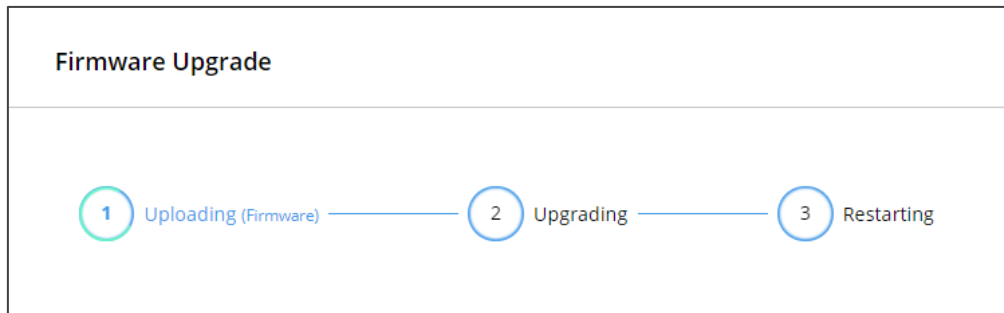

Figure 24:Firmware Upgrade Process
1. Go to the **Device Settings> General** page (Figure 24).
Click **DEVICE RESTART** on the **Device Settings> General** page (Figure 24).
Click **FACTORY RESET** on the **Device Settings> General** page (Figure 24).
1. Go to the **Device Settings > General** page (Figure 24).